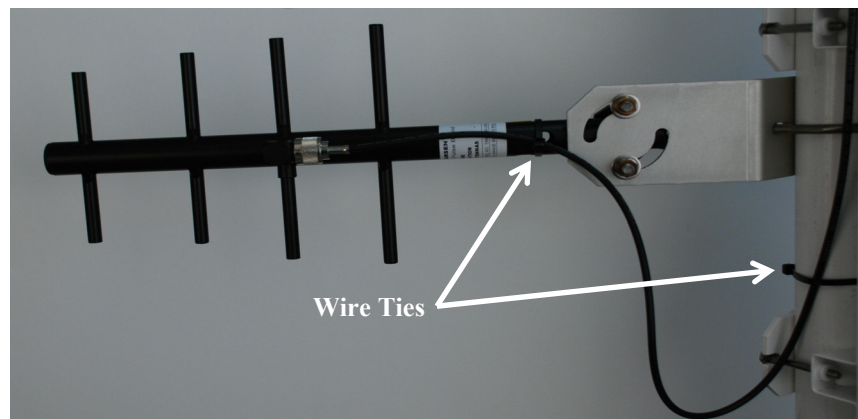

FIGURE 2.5-13. Wire Tie Antenna Cable to Yagi Antenna and to Pole
- vi. Take one black wire tie and strap the antenna cable to the antenna as shown in Figure 2.5-13. Leave a little slack on the cable between the wire tie and the antenna connector so as not to stress the connector/cable connection.
- vii. Make sure there is a loop of antenna cable directly under the Yagi antenna. This will act as a drip loop and allow moisture to run off the antenna and cable. See Figure 2.5-13.